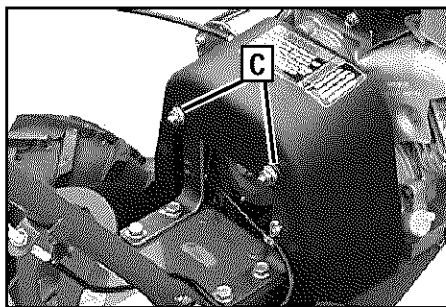

Figure 5-13: Belt cover.
2. Remove the two flange locknuts (C, Figure 5-13) and remove the belt cover.
2. Remove the two nuts (C, Figure 5-13) and remove the belt cover.
2. Remove belt cover (Figure 5-13) by removing two flange locknuts (C).